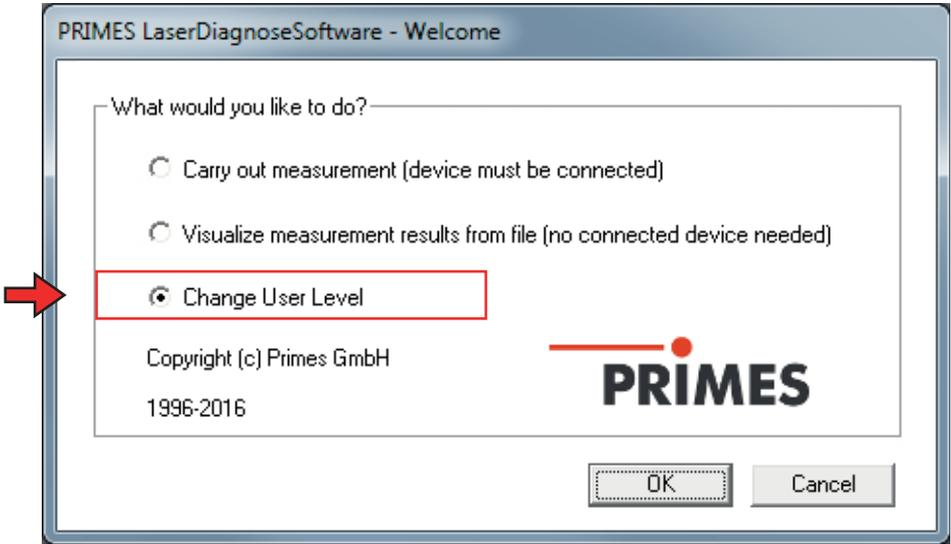

Fig. 19.13: Welcome window
1. Select “Change User Level” as shown in Fig. 19.13, type in the password for the user level **Expert** and click on **OK**.